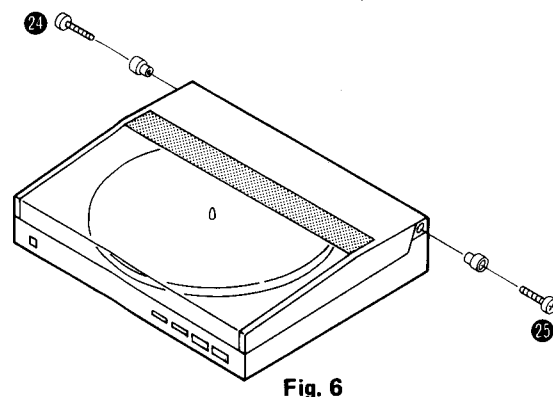
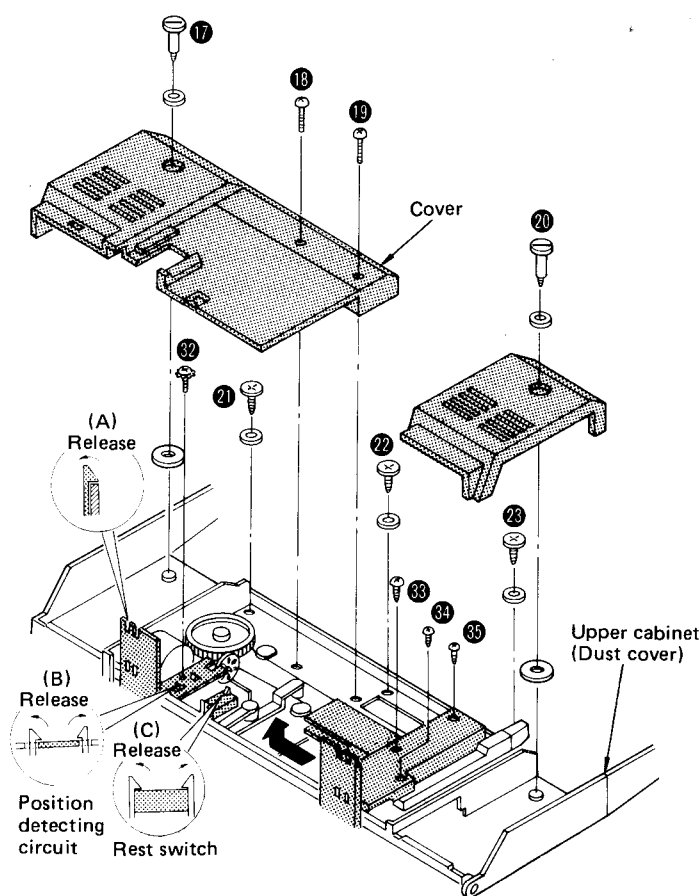

Fig. 6
Fig. 5
2. Remove the 4 setscrews of the arm motor cover. (Fig. 5 : 17 ~ 20).
3. Remove the 5 setscrews of the dust cover. (Fig. 5 : 21 ~ 23 and Fig. 6 : 24, 25)
5. The hinge is engaged with the lower cabinet. The lower cabinet can be separated from the upper cabinet by lifting the cabinet while releasing the hinge claws. (See Fig. 5 (A))
2. Remove the setscrews 32. (Fig. 5)
3. Release the claws with the nail and remove the position detecting circuit and the rest switch. (Fig. 5 : (B), (C))
2. Remove the 3 setscrews of the tonearm cover (Fig. 5 : 33 ~ 35) and detach the cover in the direction of the arrow.